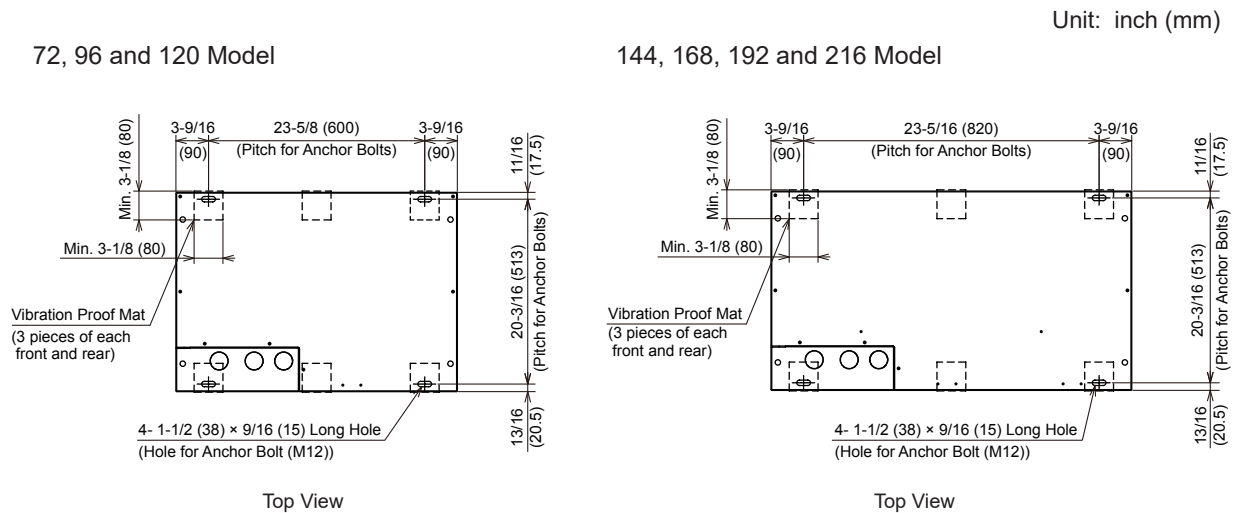

Figure 5.4 Positions of Anchor Bolts
- (3) Install the water source unit in the front-rear and right-left direction horizontally (Use a level.) Verify that the gradient slope in all four directions (front, rear, right, and left) falls within 3/8 inch (10mm). The unit should be installed so that the front (or back) side of the unit is slightly (0 to 3/16 inch (0 to 5mm)) lower than the back (or front) side to allow and promote condensate drainage.
- (4) Provide a strong, level, and stable foundation so that:
- (5) When installing the water source unit, secure the unit with anchor bolts and field-supplied vibration-proof mats. Refer to Figure 5.4 for the location of holes for anchor bolts.